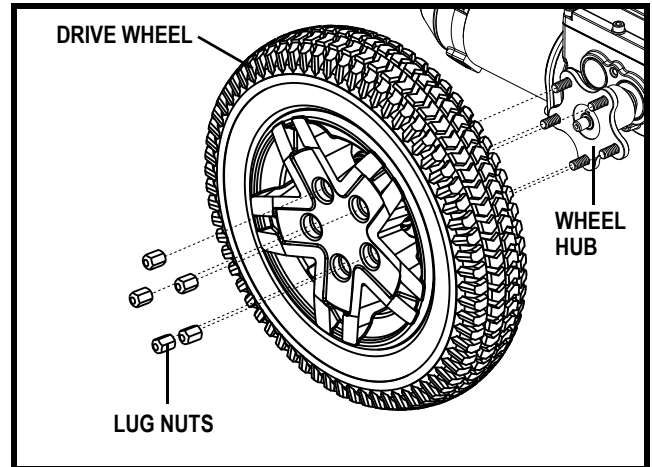

Figure 23. Jazzy 600 ES Drive Wheel
4. Remove the five (5) lug nuts from the wheel hub. See **figure 23**.
8. Reinstall the five (5) lug nuts onto the wheel hub and tighten. See **figure 23**.